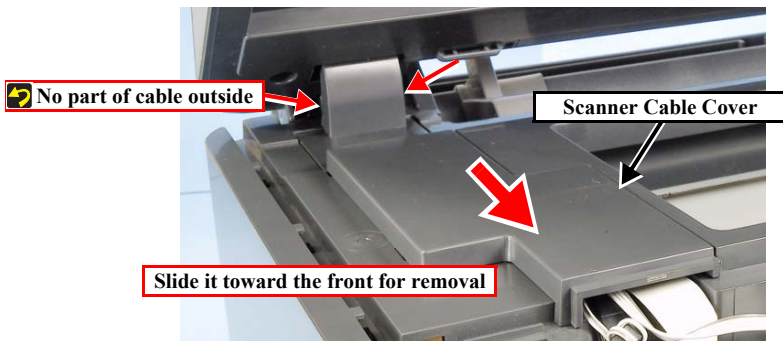

Figure 4-10. Removing the Scanner Cable Cover
3. Open the Scanner Unit, slide the Scanner Cable Cover toward the front and remove it from the Middle Housing. (Fig. 4-10)
- When installing the scanner cable, take care that no part of the cable is positioned outside the cover. (Fig. 4-10)